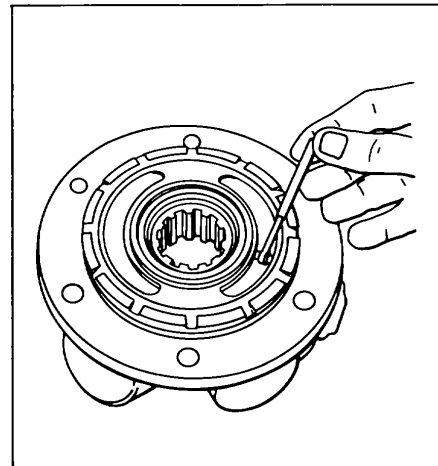

Figure 114.
b. Measure the width of the cover kidney, near the midpoint, as illustrated. See Fig. 114.